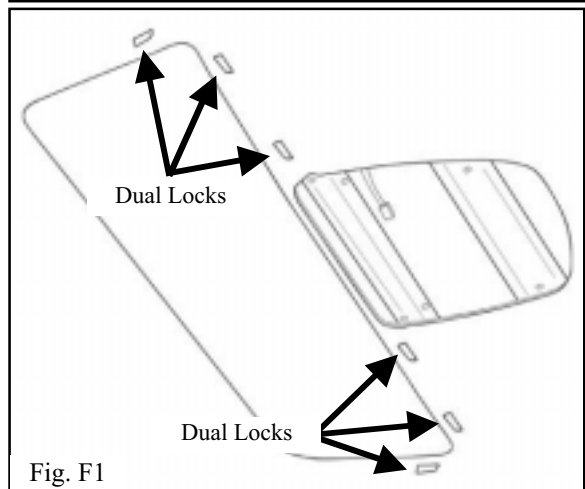

Fig. F1
- ii. Carefully disengage the six (6) dual lock fasteners from the back edge of the sunroof opening. (Fig. F1)